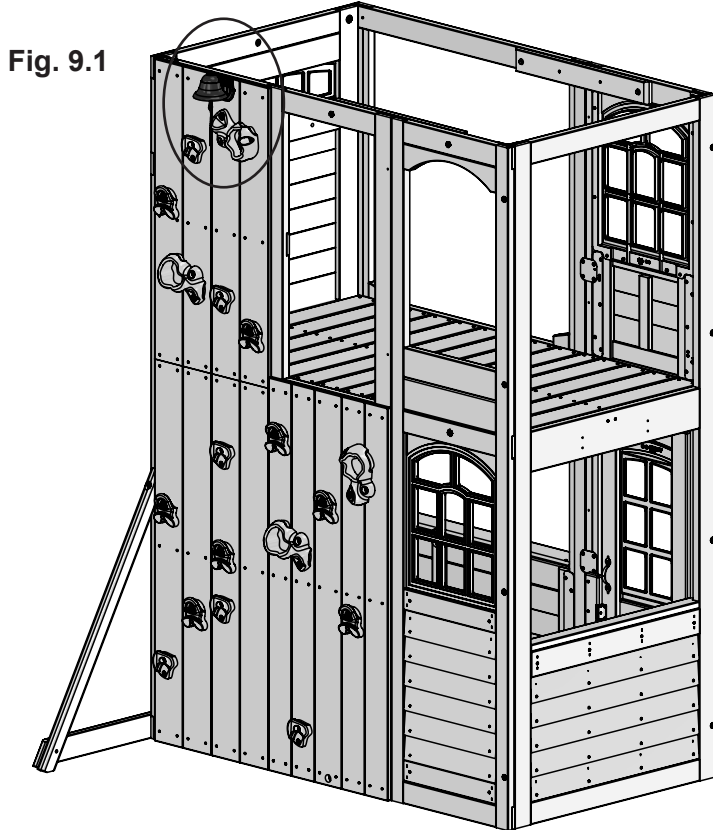

Fig. 9.1
**A:** Centre Horseshoe Mount at the top of Vertical Rock Board C and attach with 4 (S0) #8 x 7/8" Truss Screws. (fig. 9.1 & 9.2)